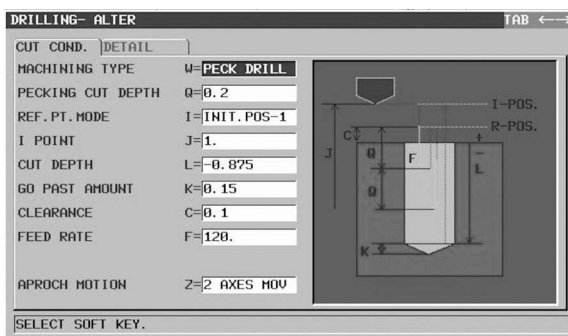

Figure 7-72 TAP DRILLING
- Press the CYCLE soft key and choose item 2. DRILLING from the list of options (Figure 7-72). Press the SELECT soft key.
- Complete the entries in the Cutting Condition tab per Figure 7-72.